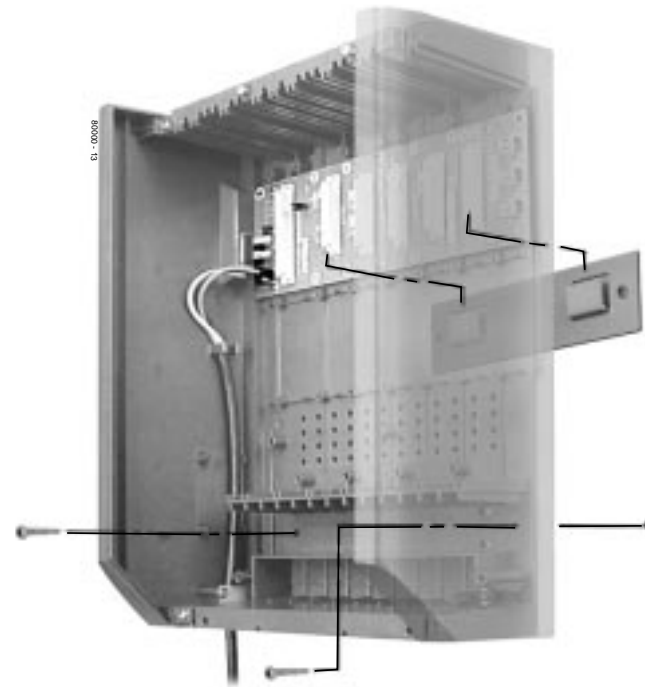

Figure 1-6 HANGING THE 4 SLOT CABINET
Hanging the Cabinet (Figures 1-6 and 1-7)
- See Figure 1-6 when hanging a 4 slot cabinet.